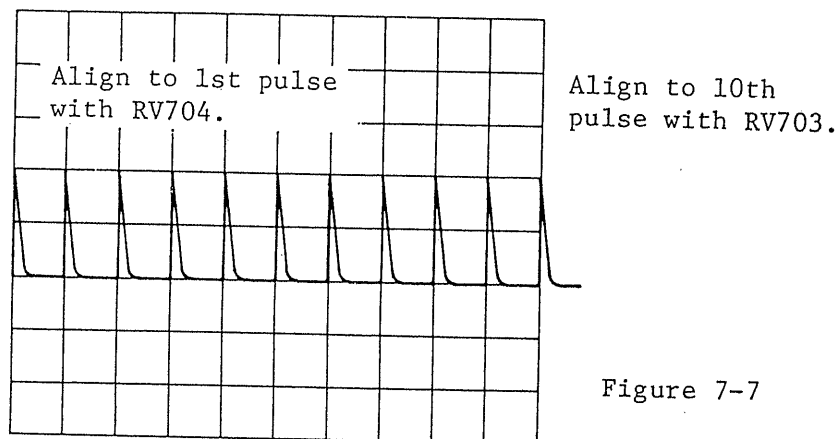
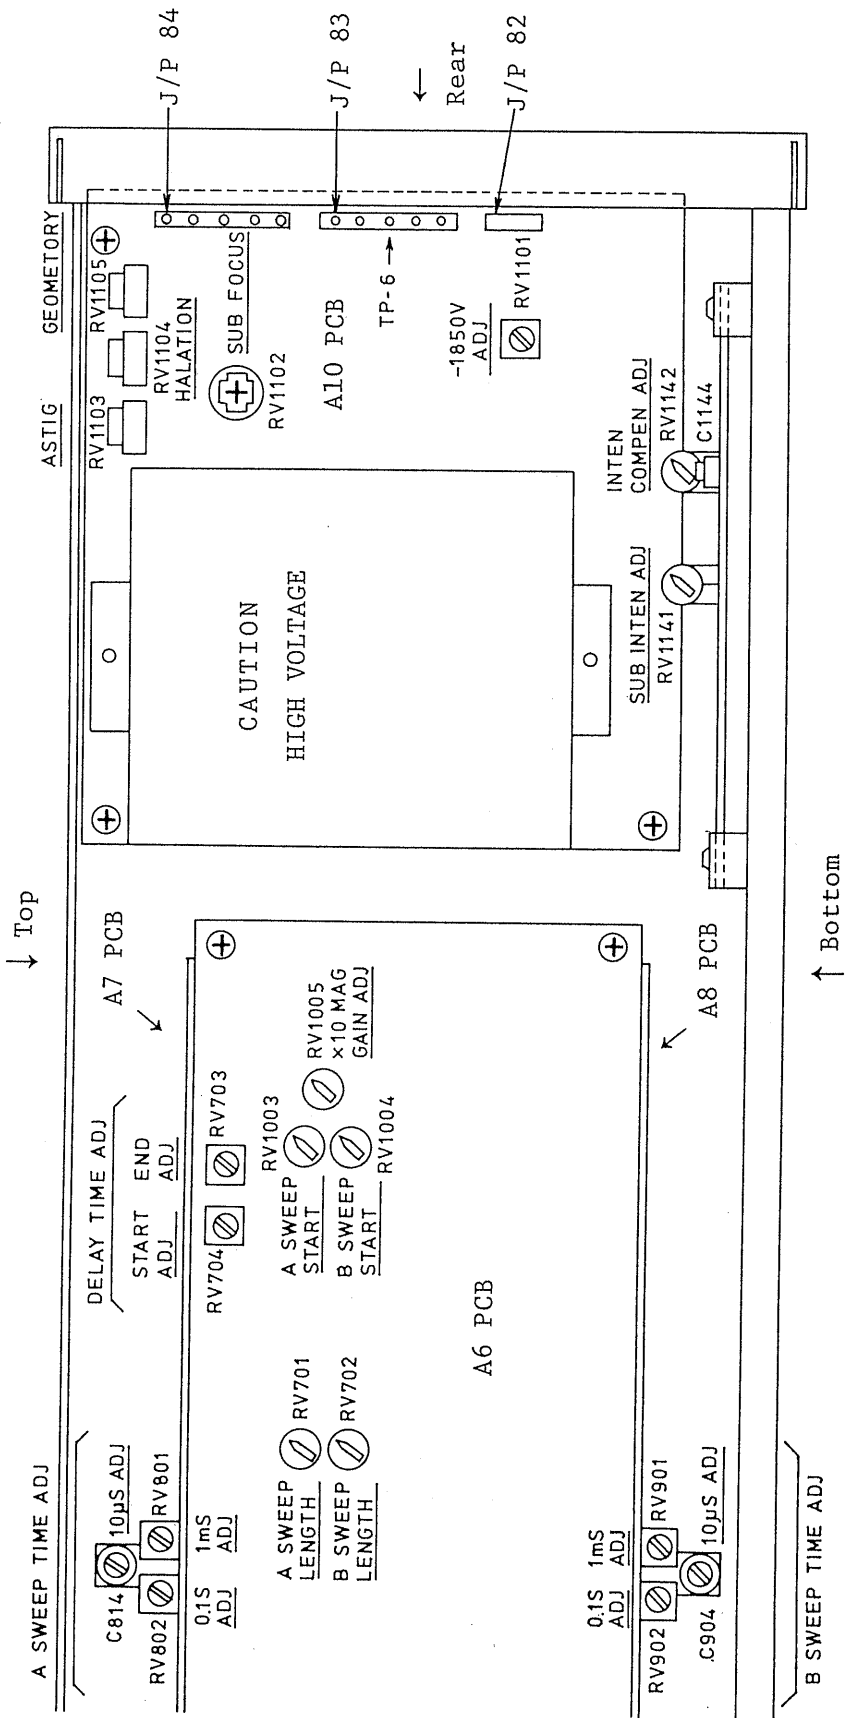

Figure 7-7
Figure 7-9 (Right hand side view)
- (1) Apply to the vertical input terminal a time marker signal of 0.1 sec or a signal of 10 Hz, and deflect the signal with an appropriate amplitude on the screen.
- (2) Set the VARIABLE knob (41) in the CAL'D position. Set the TIME/DIV switch (39) at 0.1 sec.
- (3) So adjust the 0.1S ADJ (Figure 7-9, RV802) that the displayed waveform conforms with scale divisions of the graticule.
- (4) Change the input signal to a time marker signal of 1 msec or sinusoidal wave signal of 1 kHz and change the TIME/DIV switch (39) to 1 msec.
- (5) So adjust the 1mS CAL (Figure 7-9, RV801) that the displayed signal waveform conforms with scale divisions of the graticule.
- (6) Next, change the input signal to a 10- $\mu$ sec time marker signal or a 100-kHz repetitive frequency signal and change the TIME/DIV switch indication to 10 $\mu$ S.
(7) So adjust C814 (Figure 7-9) that the displayed signal waveform conform with scale divisions of the graticule.
Calibrate the sweep time to the indicated values of the TIME/DIV switch (40). Adjust 0.1S and 1mS (Figure 7-9, RV902 and 901) and C904 (Figure 7-9) in a similar manner as that for the case of "Calibration of A sweep time."
This adjustment is for setting the lengths of the A and B sweeps at 11 DIV. Set the TIME/DIV switches (39) and (40) at 1 mS and apply a time marker signal of 1 msec or a signal of repetition frequency 1 kHz, and so adjust the A SWEEP LENGTH (Figure 7-9, RV701) and B SWEEP LENGTH (Figure 7-9, RV702) that the sweep length become 11 DIV.
- (1) Set the TIME/DIV switches (39) and (40) at 1 mS, set the DISPLAY switch (29) at ALT, and display both A and B sweeps on the screen.
- (2) So set the horizontal POSITION knobs (44) and (45) that their white dots are positioned upward (noon position). So adjust the A SWEEP START (Figure 7-9, RV1003) that the start point of the A sweep is brought to the left hand end of the graticule.
- (3) Next, with the B SWEEP START (Figure 7-9, RV1004), bring the start point of the B trace to left hand end of the graticule.
- (1) Apply to the vertical input terminal a time marker signal of 0.1 mS or a signal of 10 kHz and display the signal with an appropriate amplitude on the screen.
- (2) Set the VARIABLE knob (41) in the CAL'D position and the TIME/DIV switch (39) at 1 mS.
- (3) Turn on the  $\times 10$  MAG switch and so adjust the  $\times 10$  MAG GAIN ADJ (Figure 7-9, RV1005) that the displayed waveform conforms with scale divisions of the graticule.
- (1) Apply to the vertical input terminal a time marker signal of 1 mS and display the waveform with an appropriate amplitude on the screen.
- (2) Set the VARIABLE knob (41) in the CAL'D position, set the TIME/DIV switch (39) at 1 mS, set the TIME/DIV switch (40) at 10  $\mu$ S, and change the DISPLAY switch (29) to the A INTEN state.
- (3) Set the dial indication of the DELAY TIME MULTI at 1.00 and align the displayed waveform with the graticule.
- (4) So adjust the DT START (Figure 7-9, RV704) that the accentuated portion of the waveform is aligned to the initial pulse as shown in Figure 7-7.
- (5) Set the dial indication of the DELAY TIME MULTI at 10.00.
- (6) So adjust the DT END (Figure 7-9, RV703) that the accentuated portion of the waveform is aligned to the 10th pulse.